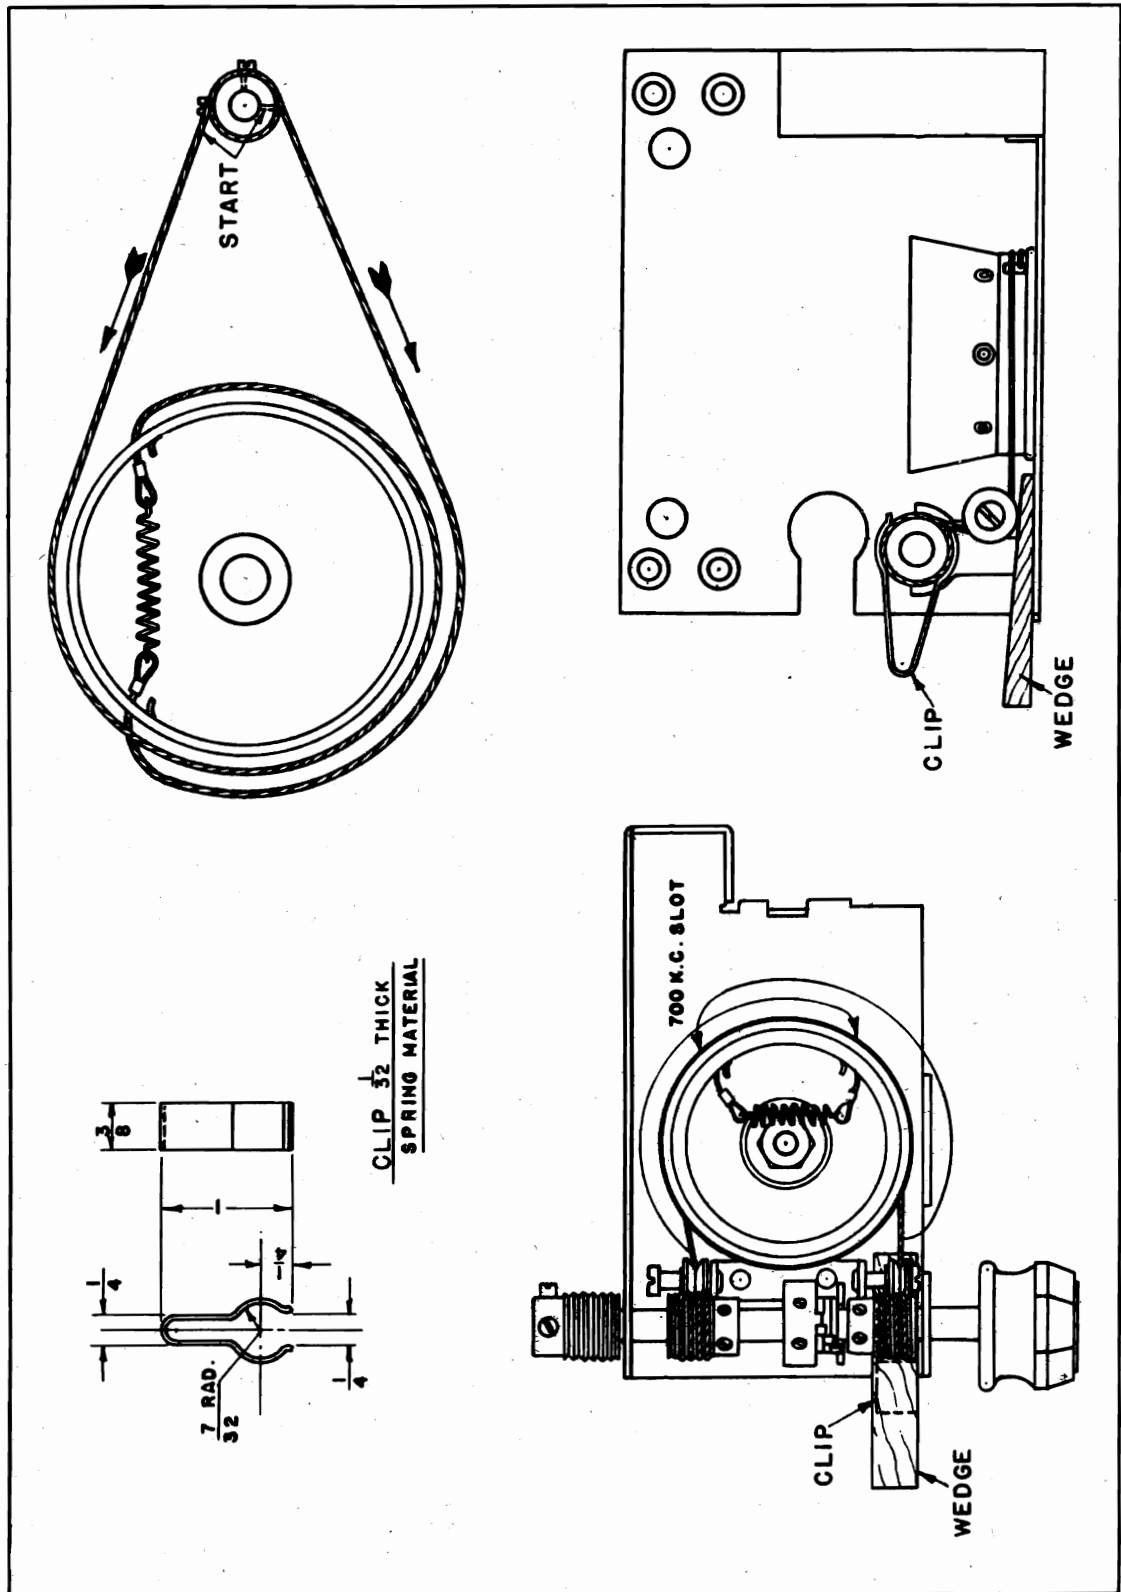

FIG. 34. REPLACING THE DRIVE CABLES
5. Replace the pulley on its shaft, with one set screw facing up and the other facing the right side of the set. (See Fig.34). Wind the cable, which comes from the BOTTOM of the pulley by turning the knob for THREE turns in a counter clockwise direction. Then LOOP the cable around the pulley for one more turn, without turning the pulley.
7. With a crochet needle, pull the cable under the drum and put the eye through the slot in the drum. (See Fig. 34). If necessary, turn the knob enough to permit the cable to reach the slot.
8. Loop the other cable around the pulley so that it comes off the top of the pulley. Then loop it around the condenser drum and into the other slot. (See Fig. 34).
7. Put a wedge shaped piece of wood under the front idler pulley so that the cable will not slip off of it. (See Fig. 34).
8. Put the clip shown in Fig. 34, which can be made of spring brass, over the pulley. See Fig. 34. Then wind the cable on the pulley by turning the knob.